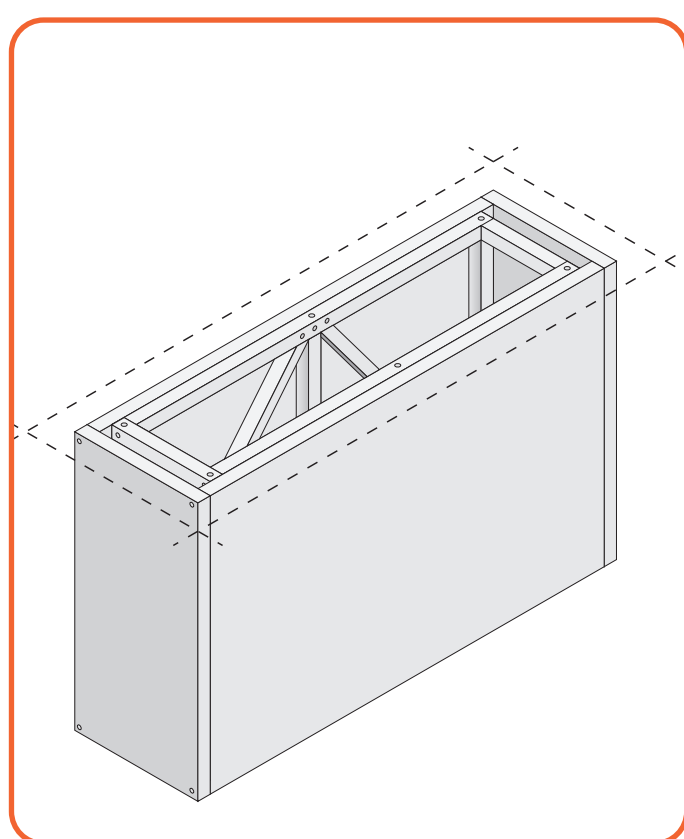

Figure 6.15 | Final construction of the chimney breast
- Then place the upright profiles, which fall between the upper and lower frame. (See Figure 6.15 and Figure 6.16)